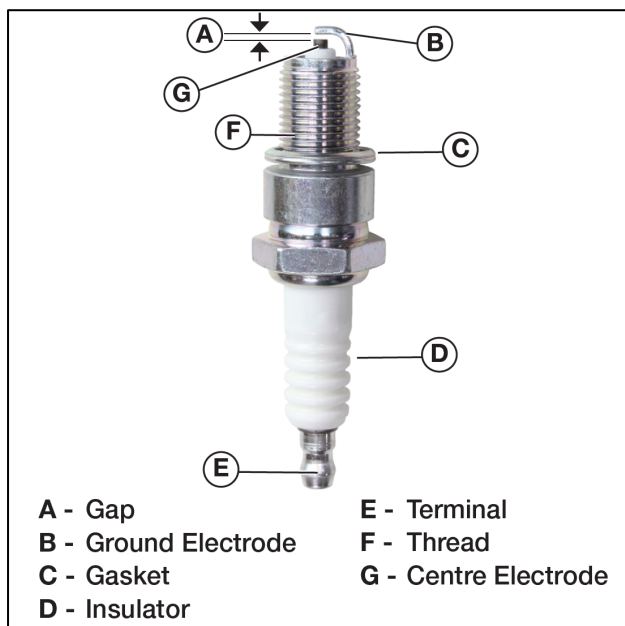

Figure 31 Spark Plug
- Spark plug gap of 0.7 mm or 0.028 inch (see Figure 31); after cleaning with a wire brush, check using a spark plug gap tool or feeler gauge and adjust by carefully bending the ground electrode. Always check the gap of a new spark plug before installing it.